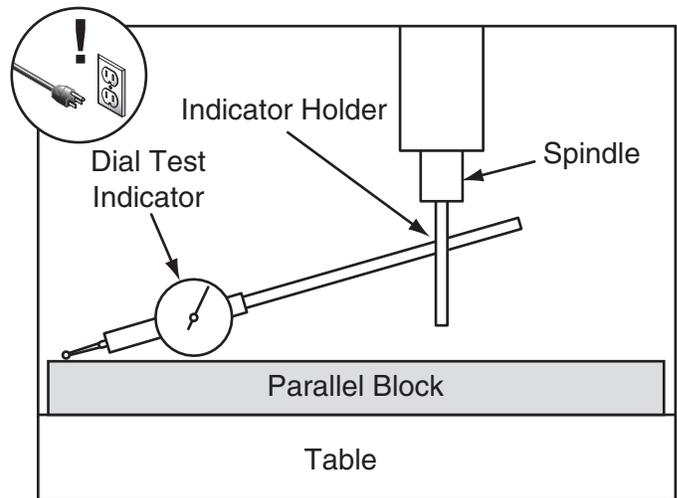

Figure 51. Dial test indicator mounted.
4. Install indicator holder in spindle or on quill, then mount indicator so that point is as parallel to block as possible (see **Figure 51**).
6. Rotate spindle by hand so that indicator point rests on one end of parallel block, as illustrated in **Figures 51–52**, then zero dial.